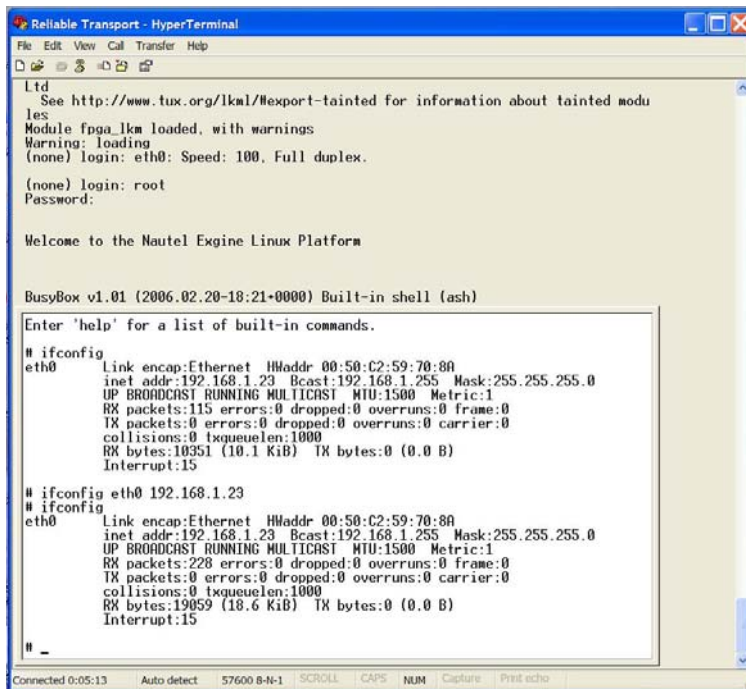

Figure 2-2: Entering IP Address – Serial Port Method
- Connect power to the reliable HD transport unit and verify that a series of boot up messages appears in the PC terminal window. When the Login prompt appears, enter 'root'. At the Password prompt, enter 'eXgine'. At the '#' prompt, enter 'ifconfig' to see the current LAN settings for eth0. As shown in Figure 2-2, enter 'ifconfig eth0 <ip address>'. Verify that the IP address has changed by entering 'ifconfig' again.